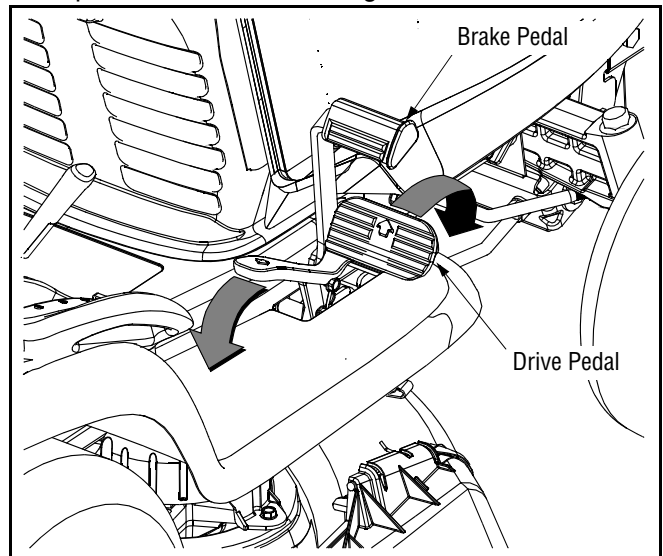

Figure 10
- To travel FORWARD, slowly press the upper portion of the drive pedal forward until the desired speed is achieved. See Figure 10.
- To travel in REVERSE, check that the area behind is clear then slowly press the lower portion of the drive pedal with the ball of your foot (NOT your heel) until the desired speed is achieved. See Figure 10.